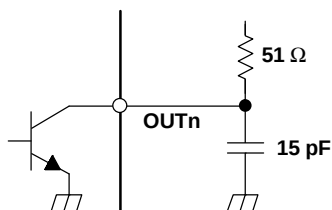
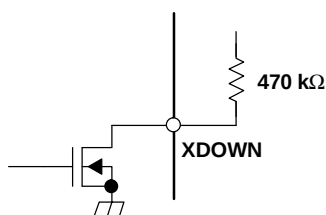

Figure 6. Test Circuit for t_{r1} , t_{f1} , t_{pd2} , t_{pd3} , t_{pd5} , t_{pd6}
Figure 7. Test Circuit for t_{pd4}
(2) See Figure 6. Defined as from 10% to 90%
(4) See Figure 6 and Figure 13
(5) See Figure 6, Figure 7, and Figure 13
(6) See Figure 6